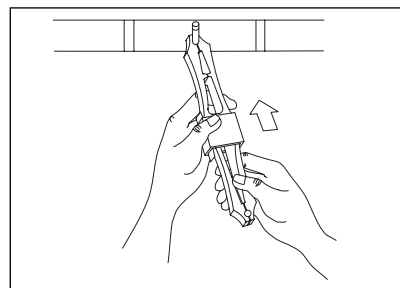

Figure 9.19
4. Pull bulb out of its position and twist to remove through opening (Figure 9.19).